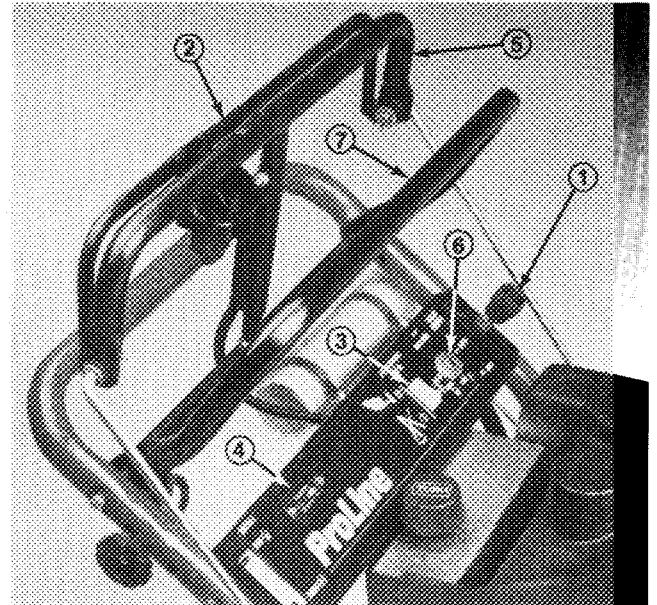

Figure 10
**Throttle Control** (Fig. 10) – The throttle control has three positions: CHOKE, FAST and SLOW.
**Deck Engagement Control Bail** (Fig. 10) – Control bail used in conjunction with deck engagement switch to release blade brake and engage electromagnetic clutch to drive deck pulleys. Release bail to disengage deck pulleys.
**Deck Engagement Switch** (Fig. 10) – Rocker switch used in conjunction with control bail to release blade brake and engage electromagnetic clutch to drive deck pulleys.
**Hour Meter** (Fig. 10) – Shows total hours that machine has been operated. Only operates with ignition key in "ON" position.
**Upper Control Bar** (Fig. 10) – Push forward on control bar to engage forward traction operation and pull back to engage reverse traction operation. Push right side of control bar to turn left and left side to turn right.
**Reference Handle** (Fig. 10) – Limits forward travel of control bar to pre-set position to help maintain desired ground speed and direction of travel.
**Ignition Switch** (Fig. 10) – Switch is part of battery ignition system and it has three positions: OFF, RUN and START. Key automatically returns to RUN position from position when released after engine starts.